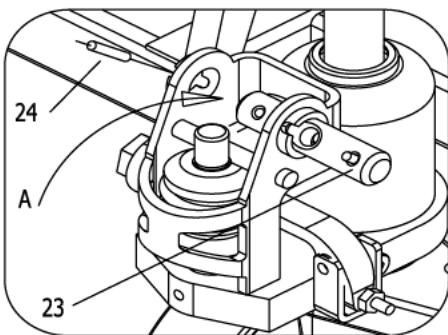

Fig. 1
- 3.1 Please refer to fig 1, and pull out the pin shaft 23.